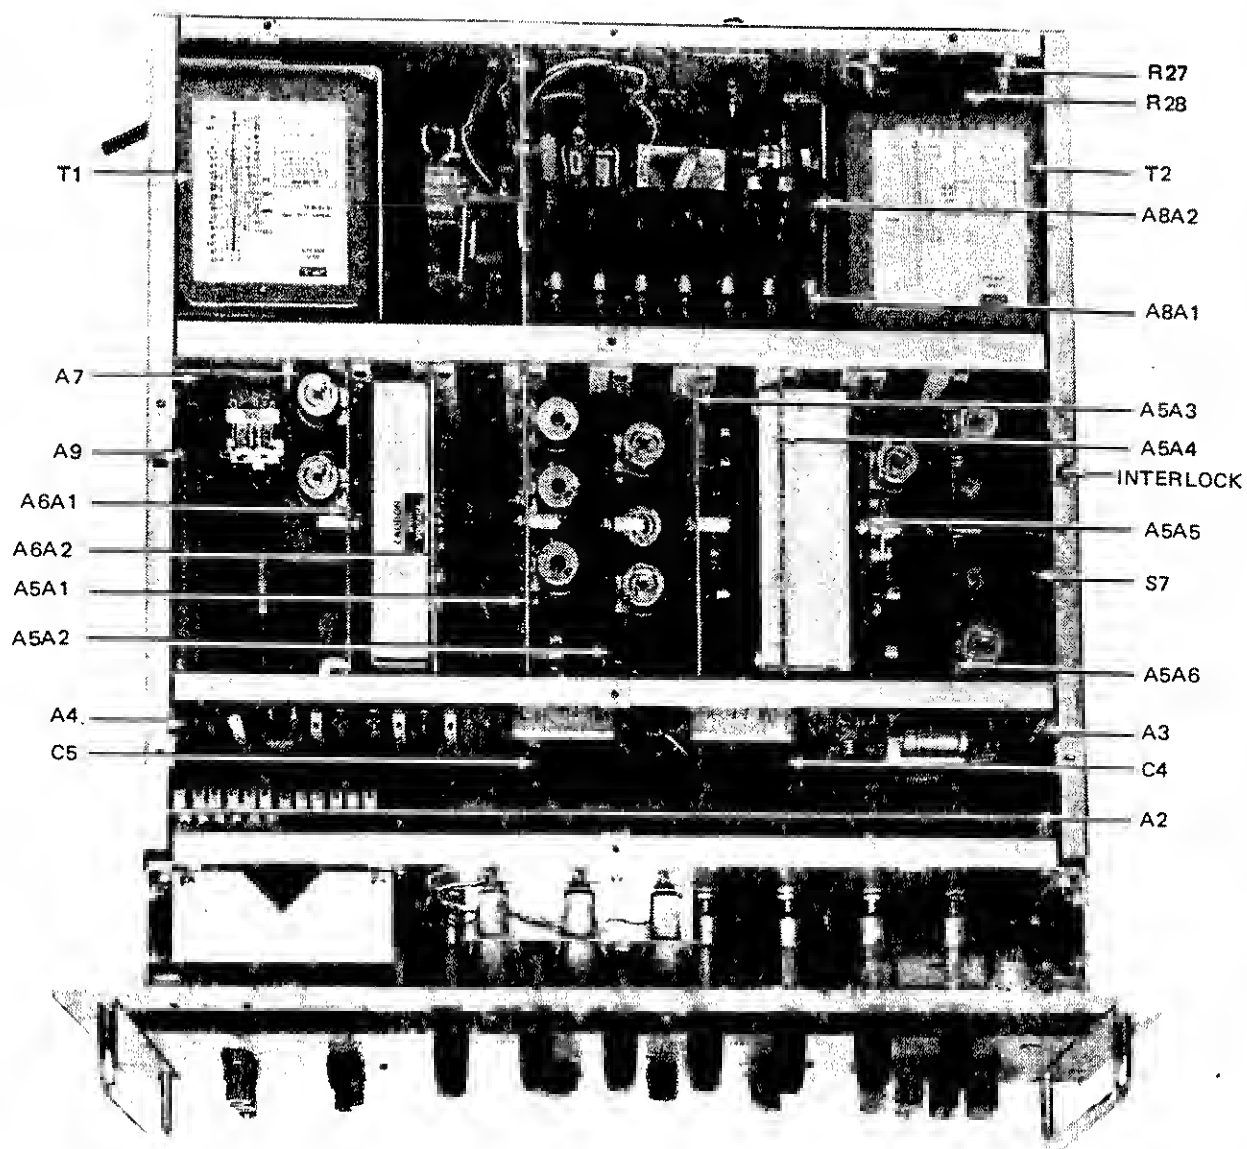

Figure 4-3. INNER TOP COVER REMOVED
- e. To remove inner top cover from instrument unscrew ten screws securing inner top cover to chassis and remove cover. See Figure 4-3.